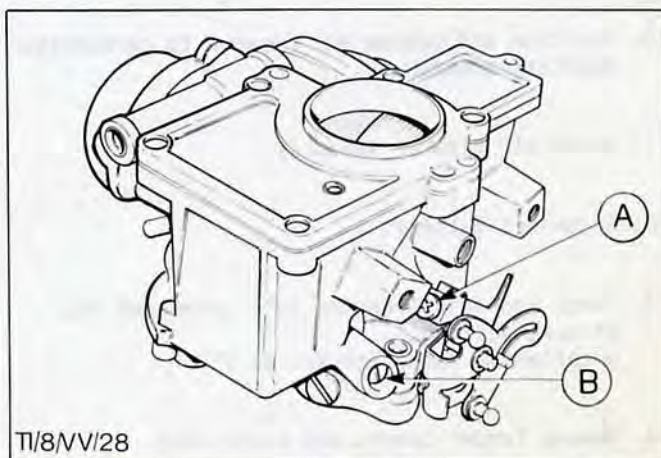

Fig.44. Idle adjusting screws.
8. Stabilise engine speed as detailed in sub-operation four and adjust mixture screw and idle speed screw to give specified %CO at correct idle speed, Fig.44.